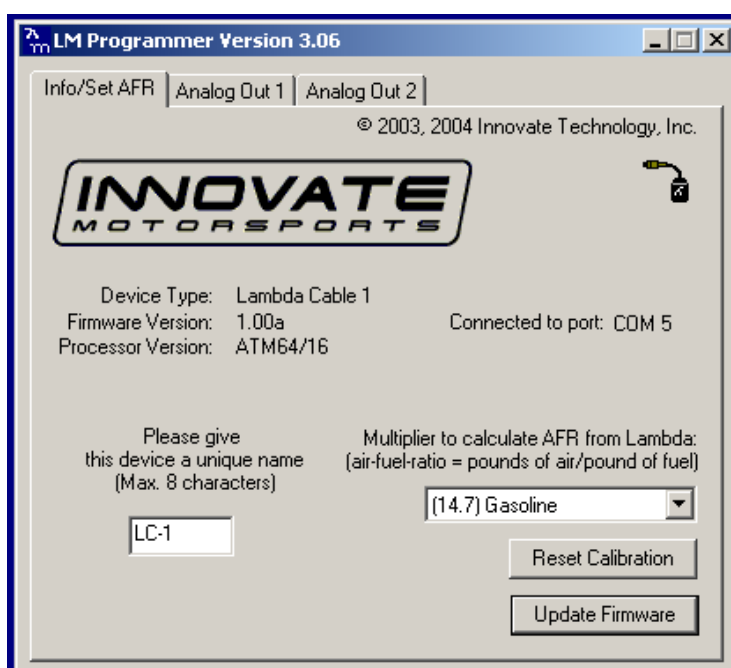

Figure 1: LM Programmer Main Menu
3. Open the LM Programmer. The window, shown in Figure 1, should be displayed when it establishes communications. If it does not connect, check your COM Port settings.